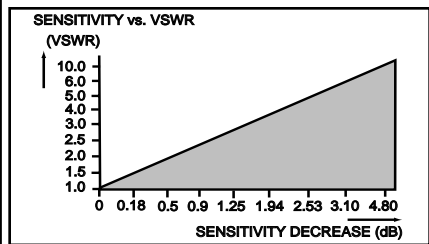

figure 3: Sensitivity vs. VSWR
- For BER of 10⁻⁵ @ 4800 baud. Sensitivity is affected by antenna SWR. See figure 3.